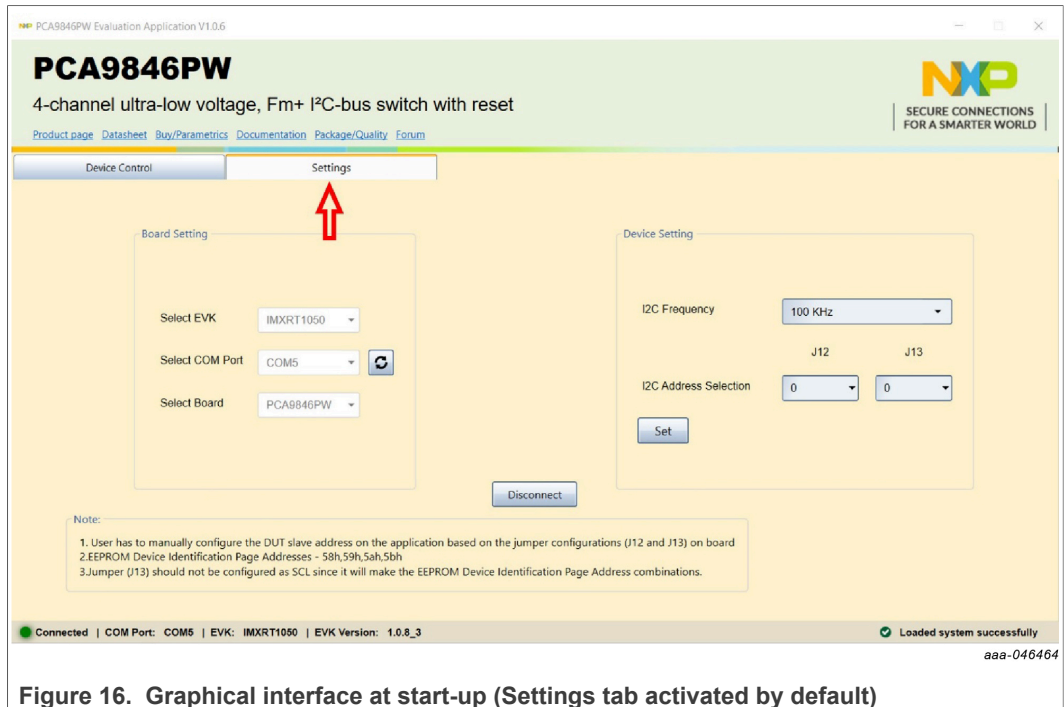

Figure 16. Graphical interface at start-up (Settings tab activated by default)
Once installation is complete, ensure that one of the mentioned three EVKs with attached PCA9846PW-ARD expansion board is connected to the PC and powered on. Open NXP_GUI (PCA9617A, PCA9846) GUI application. An interface will appear as is shown in Figure 16.
The GUI application starts with the Settings tab (marked in Figure 16 with a red arrow). The left side of the window displays Board settings. The section provides the following settings:
- **Select COM port:** Displays port selected for communication. The port is automatically selected by the system. Figure 16 shows COM 5.
- **Select Board:** Allows the user to select the correct expansion board. The application can support two different boards. In Figure 16, the selected board is PCA9846PW. Selecting a wrong expansion board causes the connection to fail.